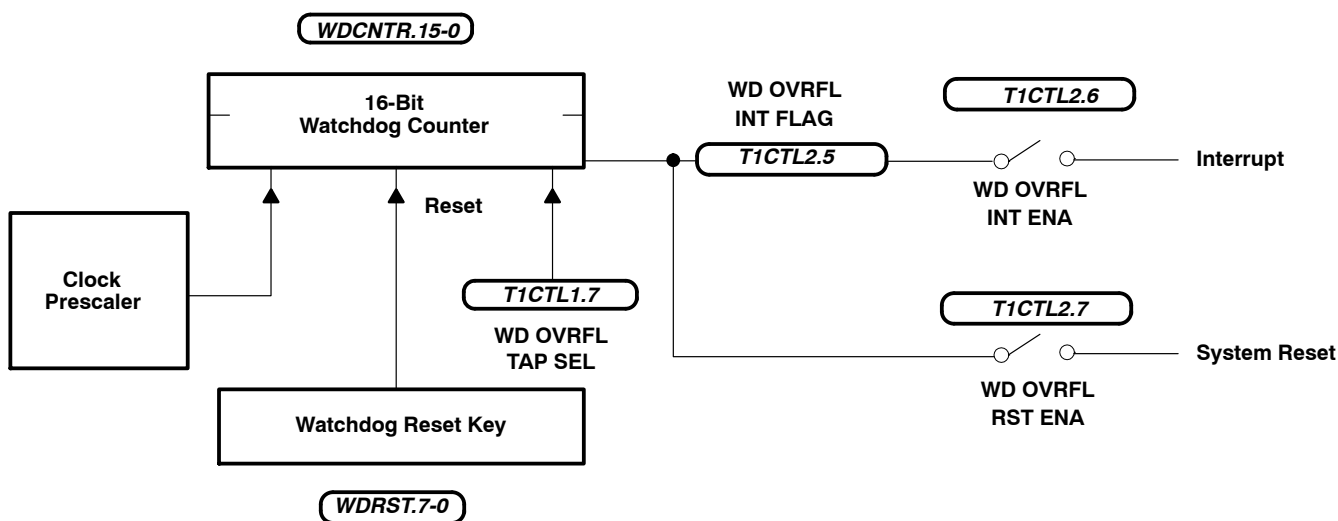

Figure 9. Standard Watchdog
- Standard watchdog configuration for EPROM and mask-ROM devices (see Figure 9)